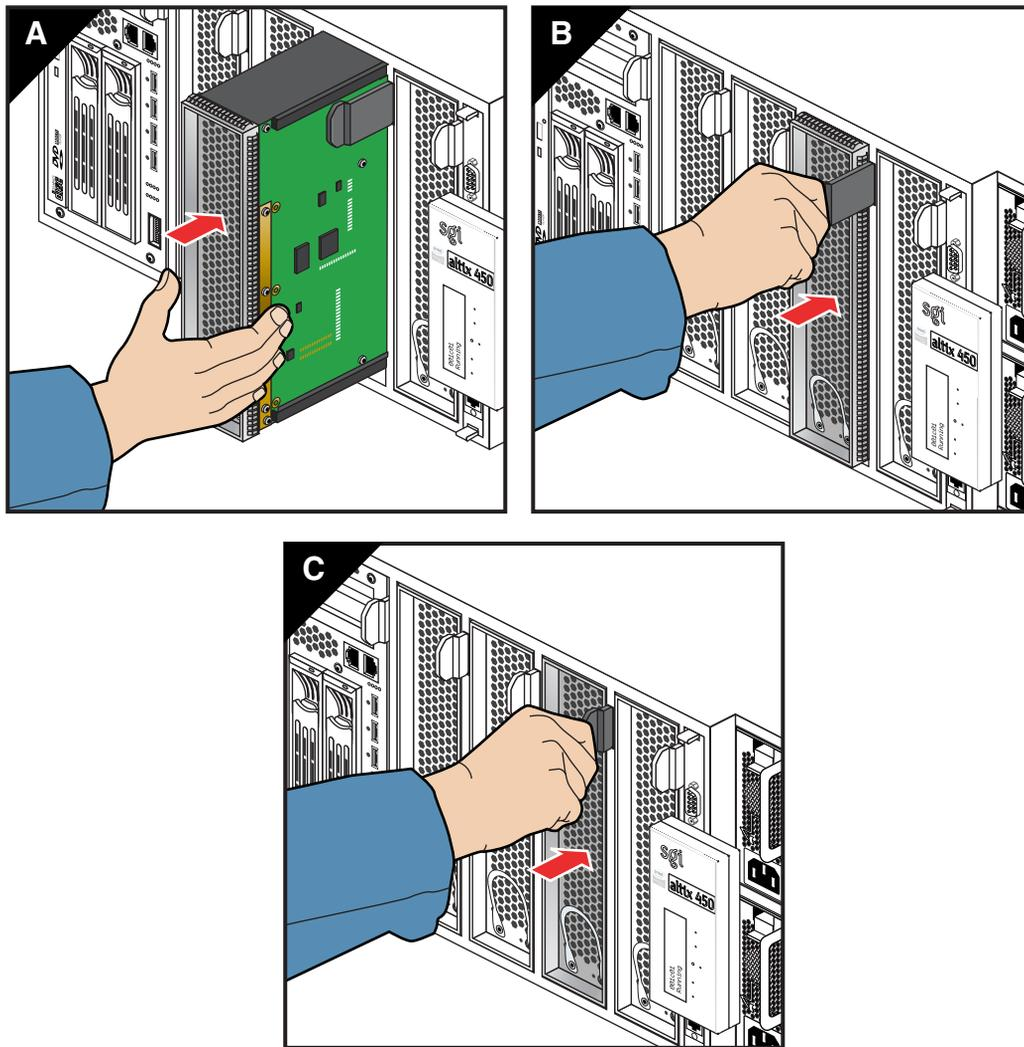

Figure 6-9 Replacing a Compute/Memory Blade in the IRU
7. Carefully push the retention tab back into place so that the blade is seated and locked down, see Figure 6-9 for an example. Note that pushing in the tab fully seats the blade (moves it deeper into the IRU) and locks it in place.